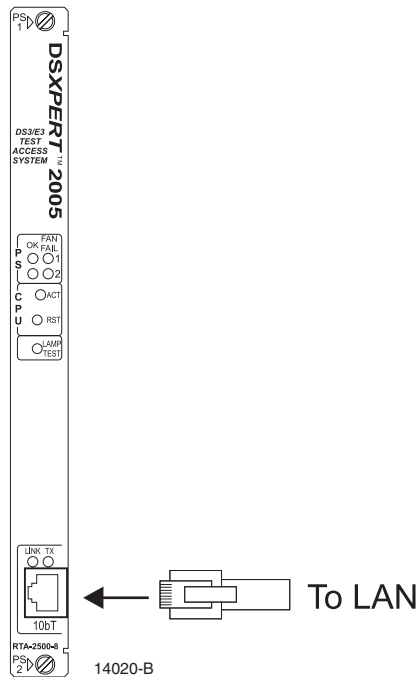

Figure 23. 10bT Connection to Ethernet Port on Control Card, Front Panel
Step 6. Connect Ethernet Port (10baseT Port). Connect the ethernet port to the LAN as shown in Figure 23. The port is located on the front of the control card and chassis rear, and provides remote access to the DSXpert unit via 10 baseT. The ethernet port is labeled 10bT.